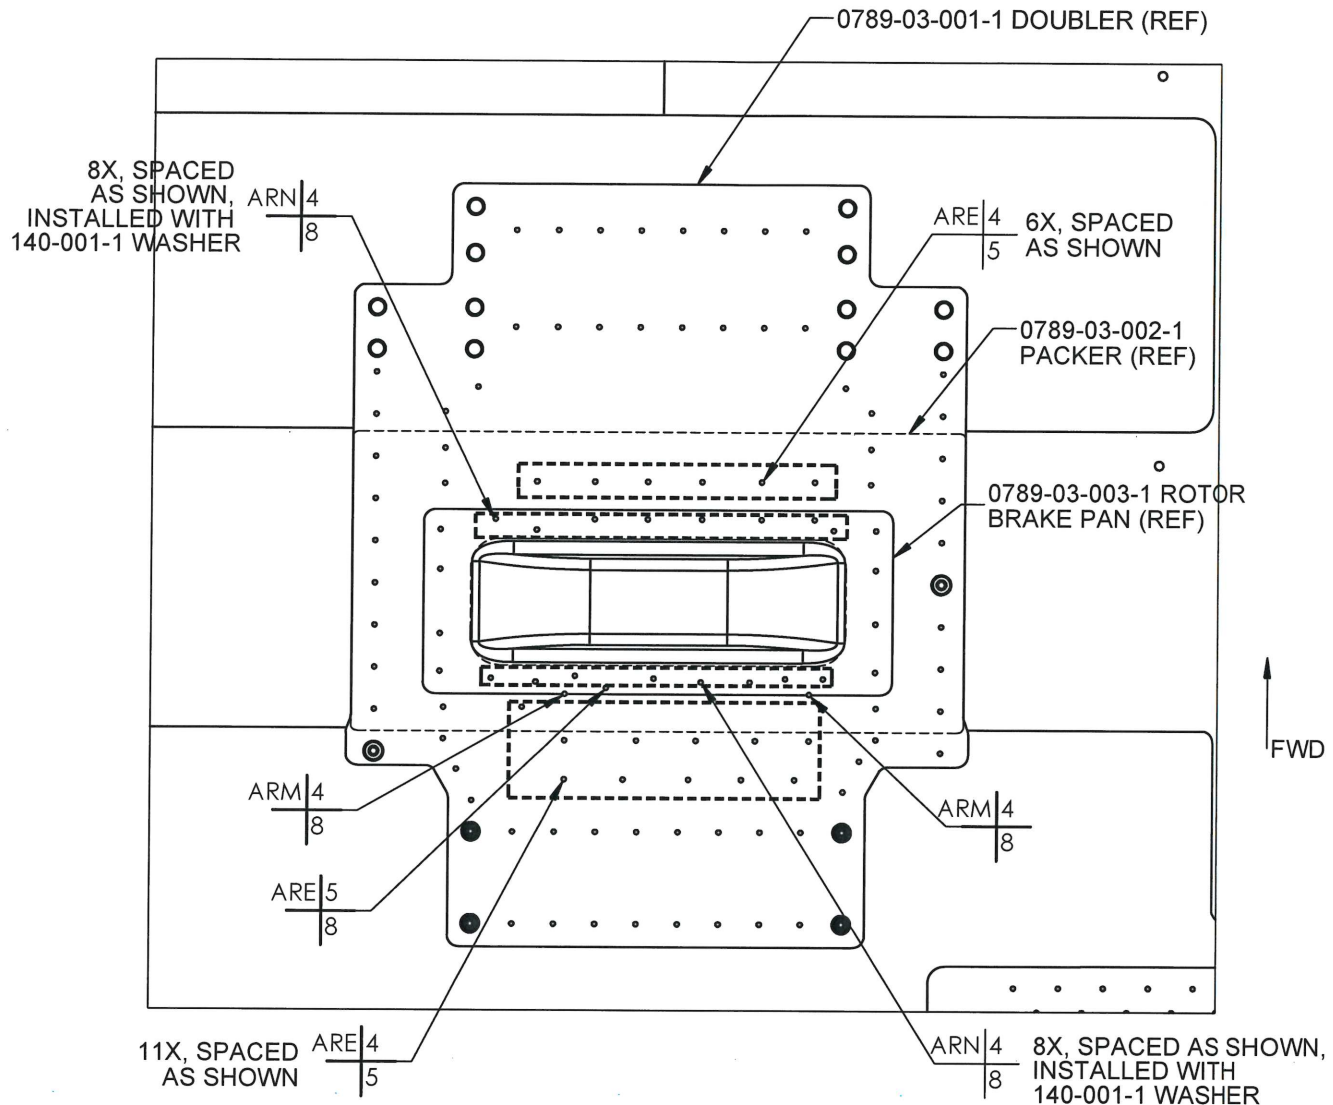

Figure 5 - Doubler Installation
8. Install all rivets while adhesive is still wet in previous transfer drilled holes per Installation Drawing 0789-01-101 Doubler Installation and TB 407-13-104. Refer to Figure 5.